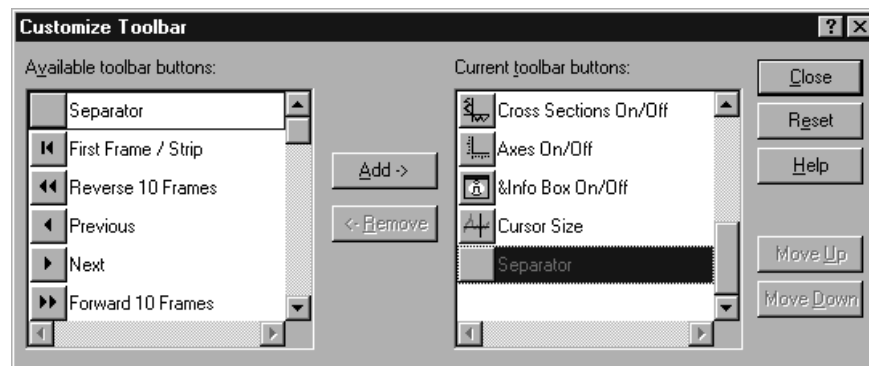

Figure 177. Customize Toolbar dialog box
Although the **Custom Toolbar** defaults with the buttons shown in Figure 176, many additional buttons are in fact available and can be added to the button using the Customize Toolbar dialog box (Figure 177). Buttons can be added or removed at any time and the new configuration will be saved when the dialog box is closed.
2. Referring to Figure 177, note that the buttons available for placement on the **Custom Toolbar** are listed on the left. Buttons already on the toolbar are on the right.
2. Referring to Figure 177, note that buttons already on the toolbar are listed on the right. Available but unused buttons are listed on the left.